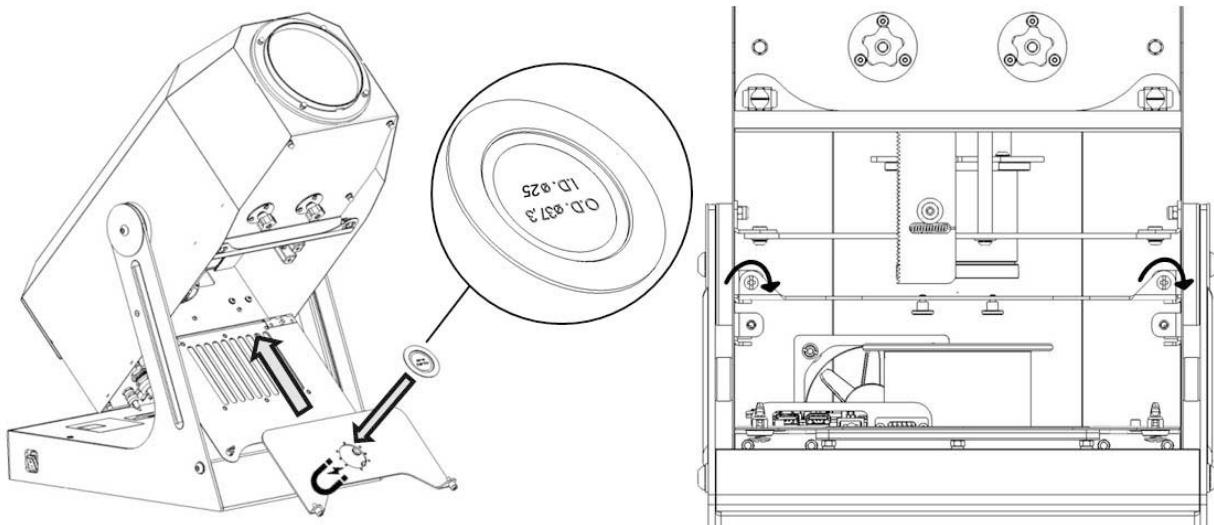

Fig.17
2. Insert the gobo holder into the projector as in Fig.17.
3. Tighten the fixing screws of the gobo holder (Fig.17).